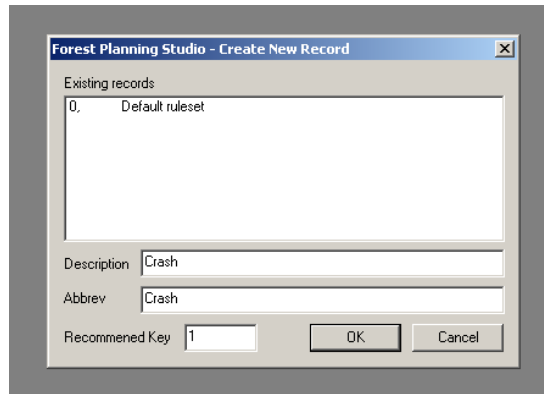

Figure 6: Box for creating a new Ruleset
1.1.3 The *Forest Planning Studio – Create new Record* window should appear (Figure 6).